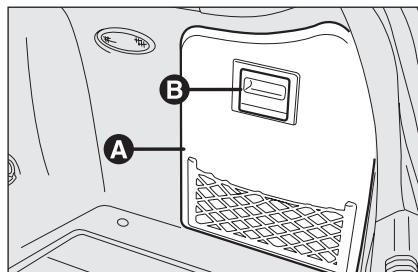

fig. 46
- ☐ use handle **B** to open the right lid (where provided) **A-fig. 46**;